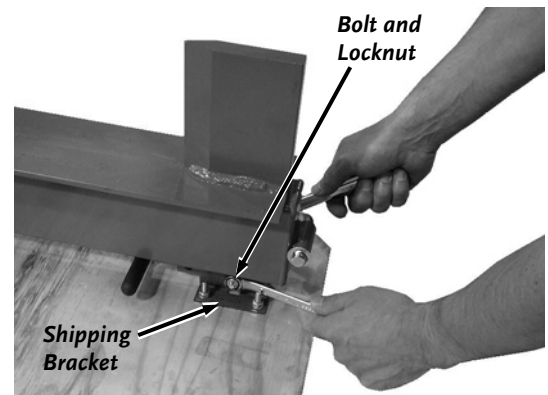

Figure 9
4. Remove the Bolt and Locknut that is securing the wedge end of the Splitter to the shipping Bracket (1/2" wrenches) (**Figure 9**).